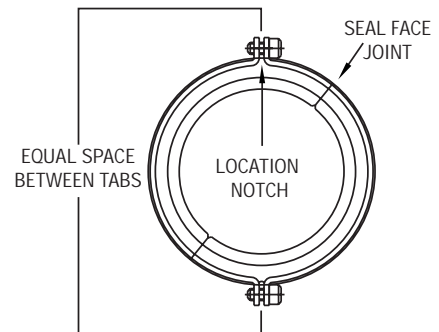

FIGURE 5
5. Evenly tighten the screws in the clamp ring halves to the torque value specified on the top assembly drawing in order to secure the assembly. Do not cross-thread or force the screws. Screws should thread smoothly. There should be the same amount of space between the Tabs on each side as seen in Figure 5.